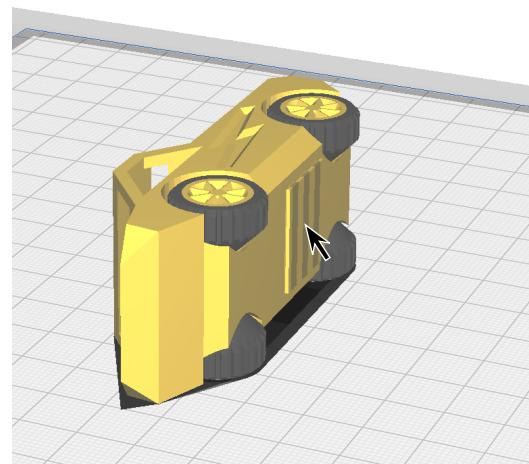

Fig. 15
Step 4. Add custom supports, Fig. 15.